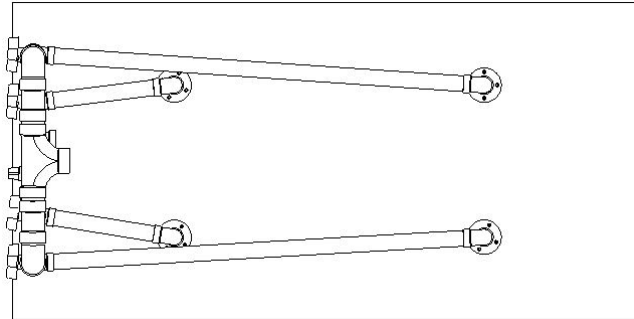

Figure 2 Bottom view of vacuum plenum plumbing
- When the channels are finished you will get a prompt asking if the holes need to be relocated. Check to make sure that the holes clear the table cross supports and relocate the holes if necessary. Remember to include clearance for the flange when considering placement of the holes. You should also lay out the plumbing first to determine the best location for the holes. If the holes are in line with each other as in Figure 2, you may not be able to run your pipe in a straight line to your vacuum manifold; so check first. You might need to offset the holes to get the proper clearance. If you need to relocate the hole and answer Y to this prompt, the keypad will come up allowing you to use the arrow keys to reposition your cutter.